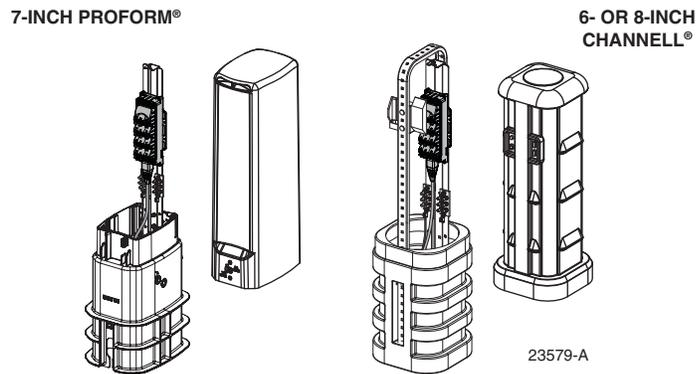

Figure 7. Typical Pedestal Mounting
- **Pedestal Mounting** (at final grade) – Pedestal enclosures (examples shown in Figure 7) may be used for mounting the MST at ground level. Pedestal enclosures consist of a base assembly and a top cover. The base assembly mounts partly in the ground. Cables and conduit enter the base assembly from the bottom.